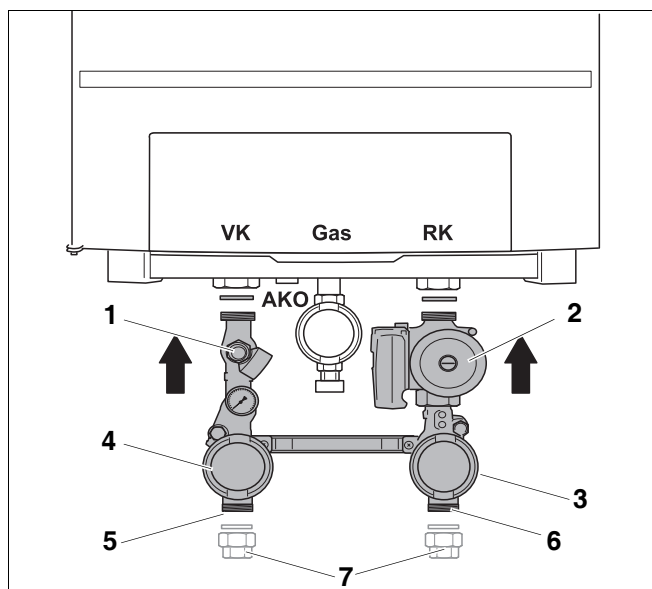

fig. 9 Installing the isolating valves
- Install the blue and red isolating valve (fig. 9, **item 3** and **item 4**) with the flat rubber seals in place on the CHR and CHF (boiler return and flow) connections.
- Connect the flow pipe to the red isolating valve (fig. 9, **item 5**) free of strain. If necessary, use the screw fitting (accessory, fig. 9, **item 7**).
- Connect the return pipe to the blue isolating valve (fig. 9, **item 6**) free of strain. If necessary, use the screw fitting (accessory, fig. 9, **item 7**).
A 4-bar pressure relief valve forms part of the pump group (fig. 9, **item 1**).